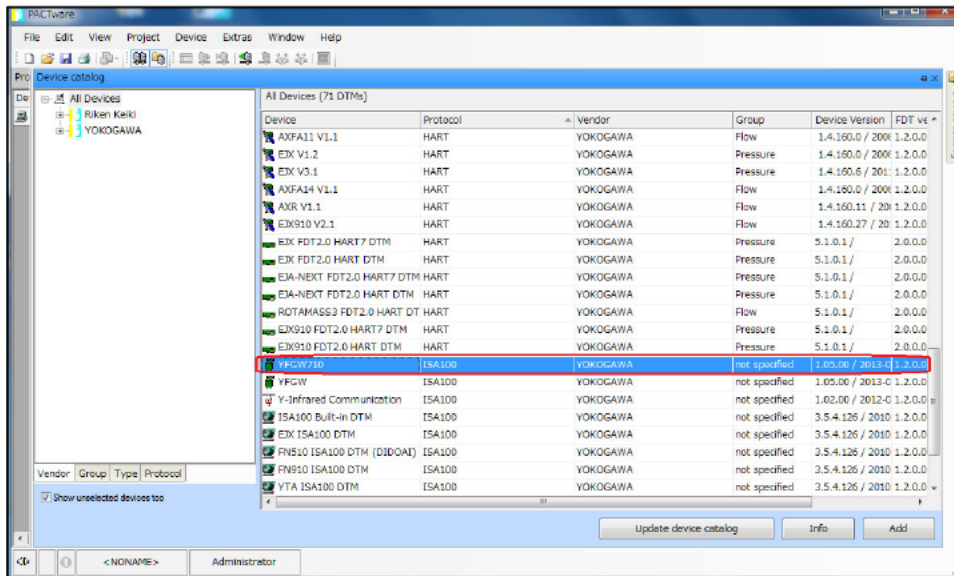

Figure 5-21 DTM list after updating
④ Once the list is updated, confirm that “SDWL-1 Device DTM” and “YFGW710” are listed. (Figure 5-21)